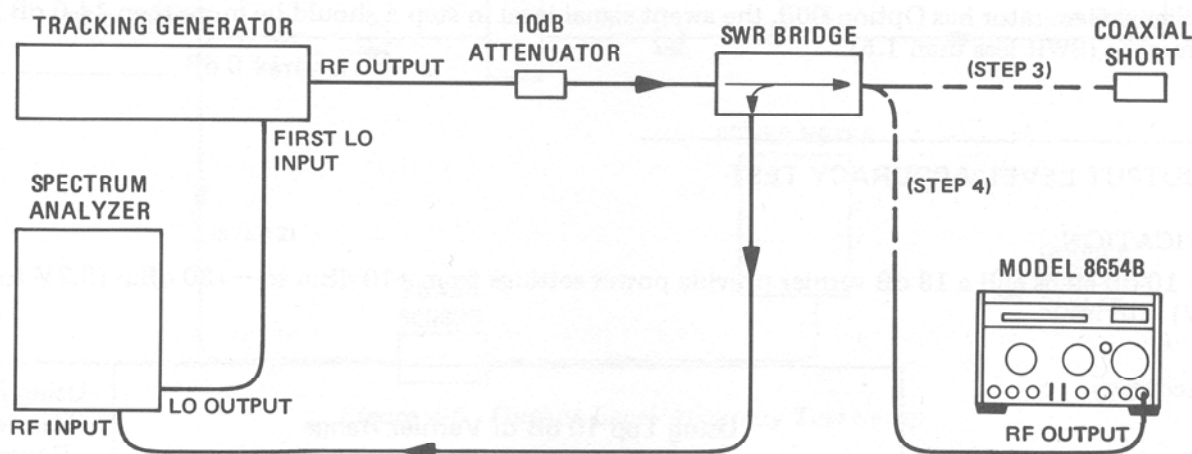

Figure 4-4. Output Impedance Test Setup
3. Connect equipment as shown in Figure 4-4. Connect coaxial short to bridge output port. Use spectrum analyzer vertical reference level controls to set swept signal display to top graticule line of display with 10 dB/division log vertical scale.